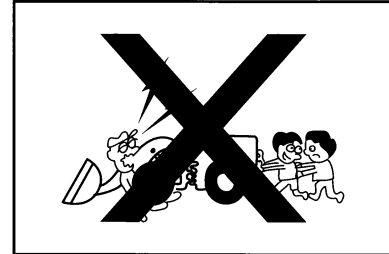

Figure 2-23
- During checking the wheels, don't make any access to the steering wheels, both in the front and in the back. Such checking should be done from the wheel sides. When you need to remove one of the wheel, other wheels should be blocked with wedges. (Figure 2-23)